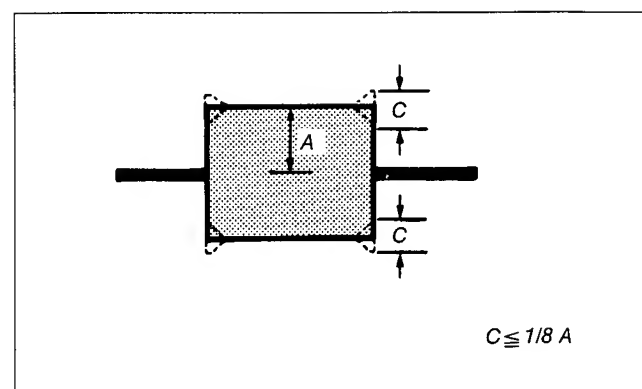

Fig. 8-65.
- 3) Confirm that the waveform does not fluctuate greatly. (Refer to Fig. 8-65.)